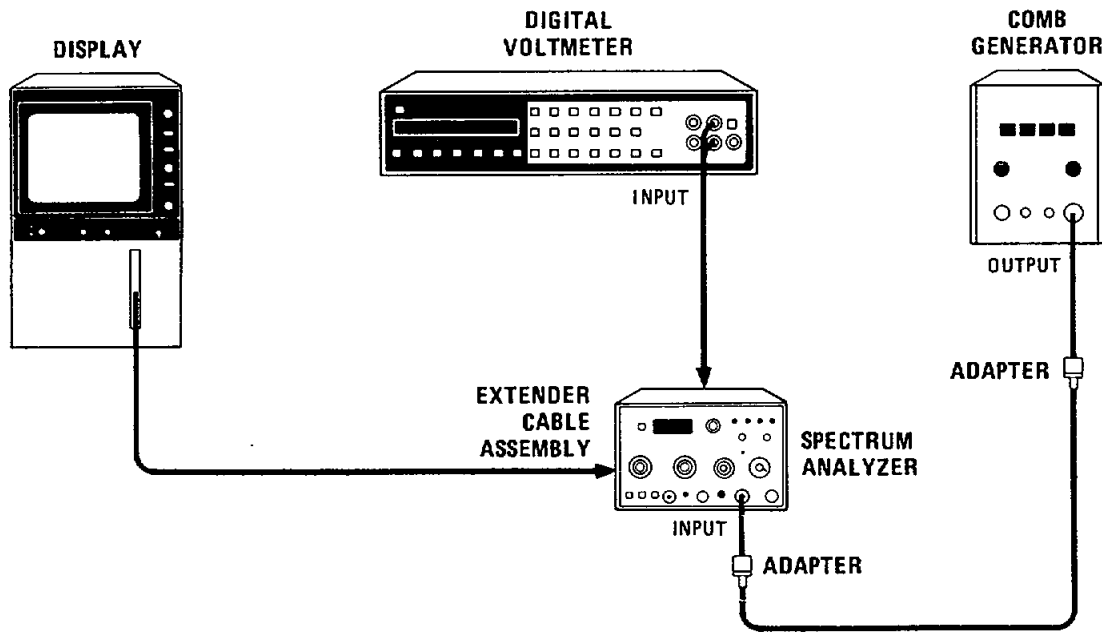

Figure 5-15. Frequency Control and DPM Adjustments Test Setup
1. Connect equipment as shown in Figure 5-15. Connect digital voltmeter to A7TP7 (located between A7R4 REF V and A7R5 + 14.5V adjustments).